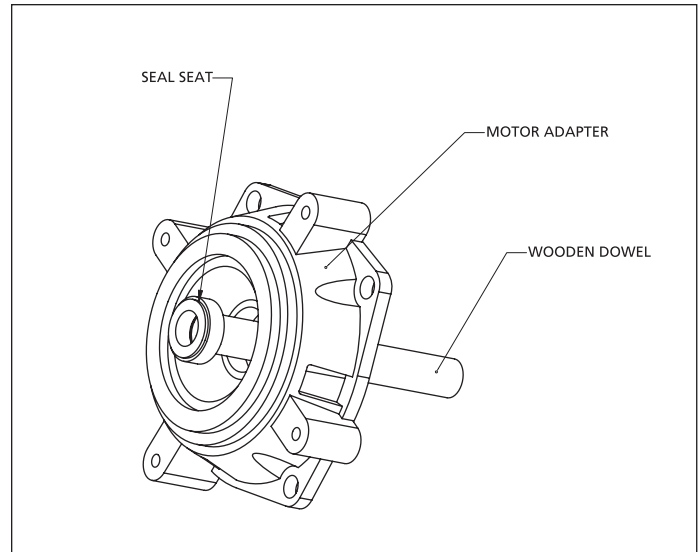

Figure 5 - Seal Seat Removal
5. Use a wooden dowel to push out the seal seat (Ref. No. 4) from the body adapter (Ref. No. 2) (see Figure 5).